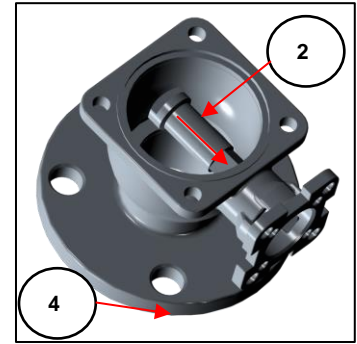

Figure 4-24
- 4.4.5 Insert the valve stem (item 2) through the shaft bore from inside the valve body (item 4). Push the stem into the body until it extrudes, as shown. (Figure 4-24)